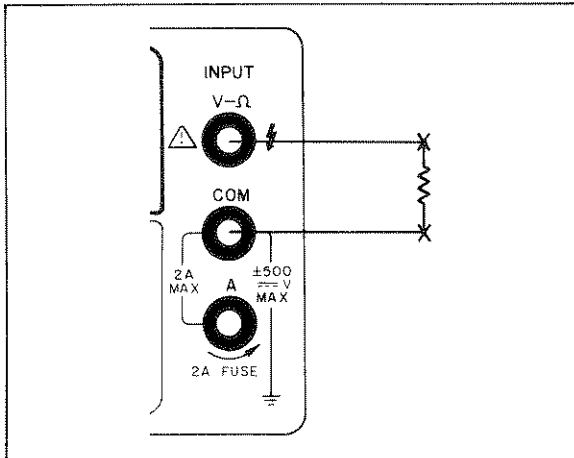

Figure 3-8. Resistance Measurement.
- c. Connect test leads from the Multimeter V Ω (=) and COM (-) terminals to the resistance under test as shown in Figure 3-8.